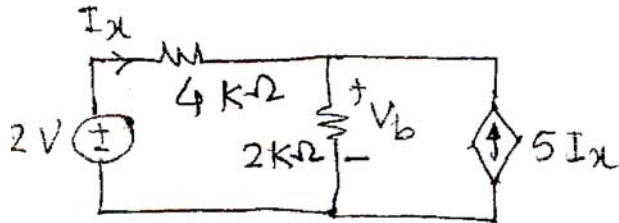

Fig 2b
b) Determine node voltage V_b for the circuit shown in fig 2b. 6